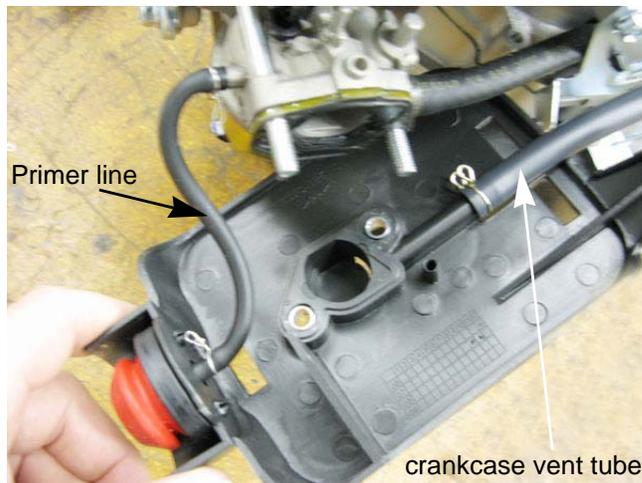

Figure 3.9
4. Disconnect the crankcase vent tube. See Figure 3.9.
5. Disconnect the primer line. See Figure 3.9.